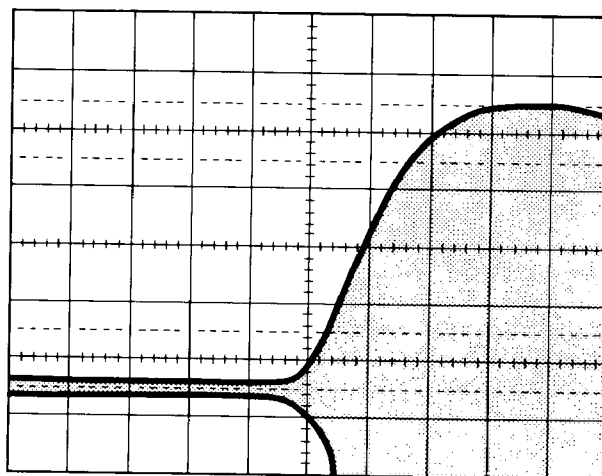

Figure 5-49c. Pulse Modulation Rise Time Waveform
9. Adjust the oscilloscope as in step 4 except the horizontal period should be adjusted so only the rising edge of the pulse is viewed. Refer to Figure 5-49c. Set the 10% point of the modulation envelope at the center vertical graticule line.